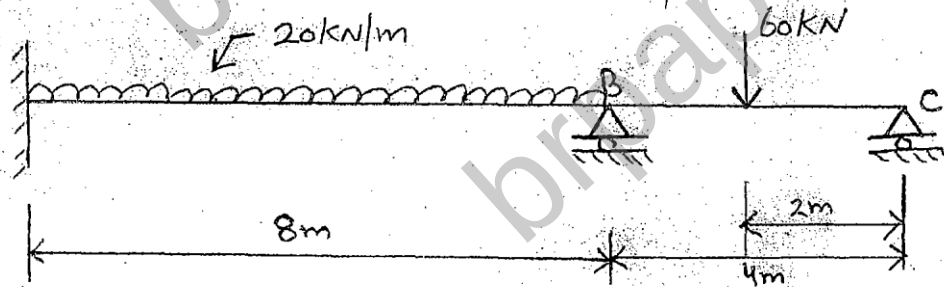

Fig.3
4. Analysis the continuous beam shown in figure 3 by moment distribution method.